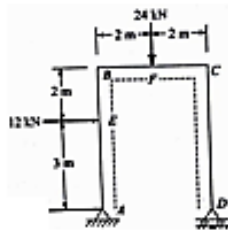

Figure 3
3. (a) Determine the rotation at supports and deflection at mid span of the simply supported beam as shown in the Figure 3. Use moment area method. [7M]